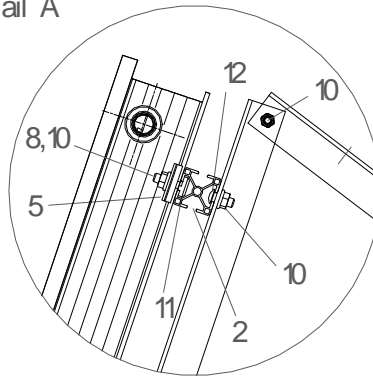

Fig. 5
4. Fix the mounting rail (2) on top and bottom (compare Fig. 1) using the clamps (5), the carriage-bolts (12) and the nuts (10) on the diagonal part of the installation racks (see Fig. 5).